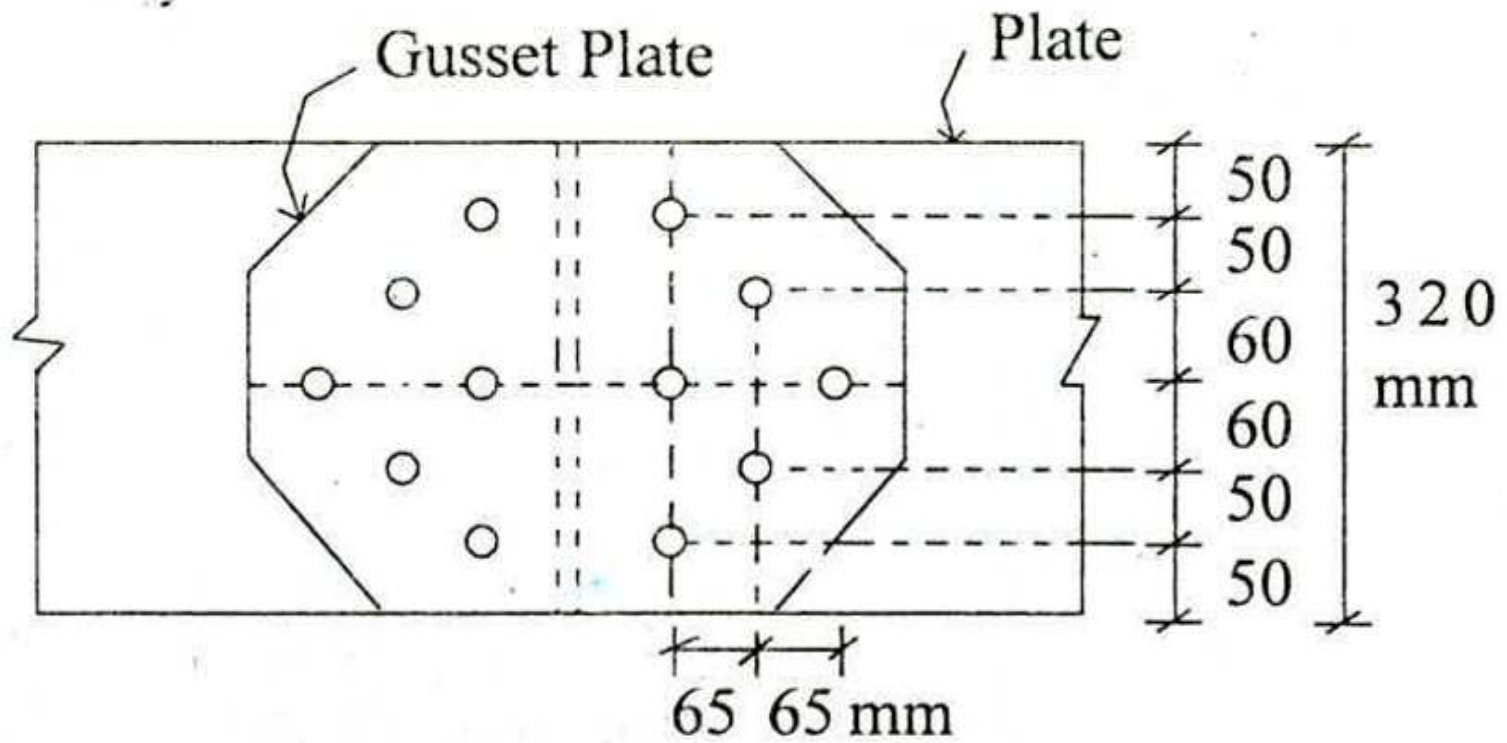

Fig. 7
6. (a) Two steel plates in axial tension are to be connected by bolts as shown in Fig. 7. Determine its tensile strength. Bolt dia = 25 mm, Hole dia = 28 mm, Plate thickness = 16 mm each,  $f_u = 440$  MPa,  $f_y = 290$  MPa. 20